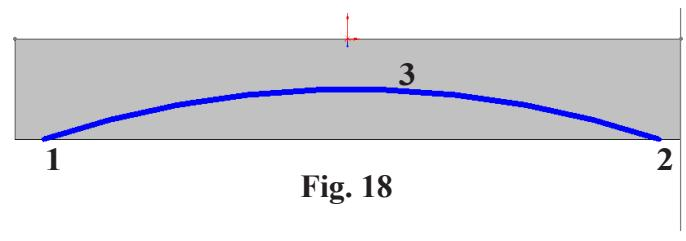

Fig. 18
Step 4. Draw 3 Point Arc between Points 1, 2 and 3 across bottom of member, **Fig. 18**.